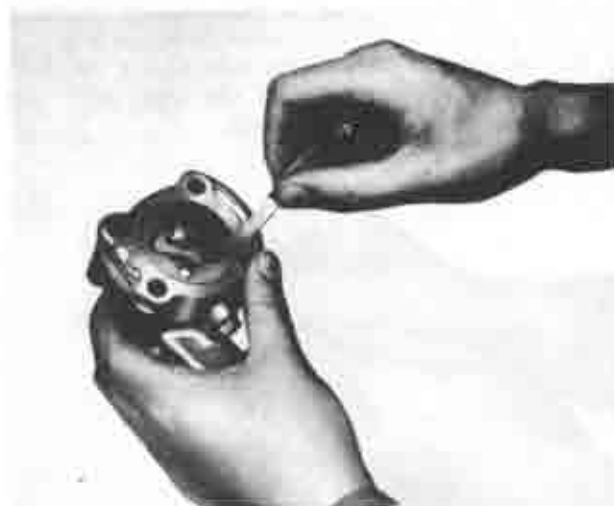

Fig. 2-4 Checking gap of rotors
1. Use a feeler gauge to check the clearance between the outer rotor and the inner rotor as shown in Fig. 2-4. The standard clearance should be $0.01 \sim 0.09 \text{ mm}$ ($0.0004 \sim 0.0035 \text{ in}$).